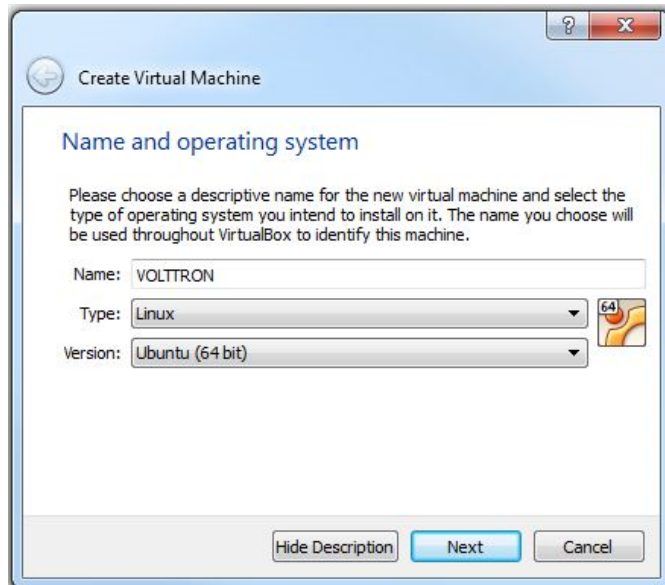

Figure 4: Creating a Virtual Machine
2. A selection box will appear; configure the selection as shown in Figure 4. Choose Next.